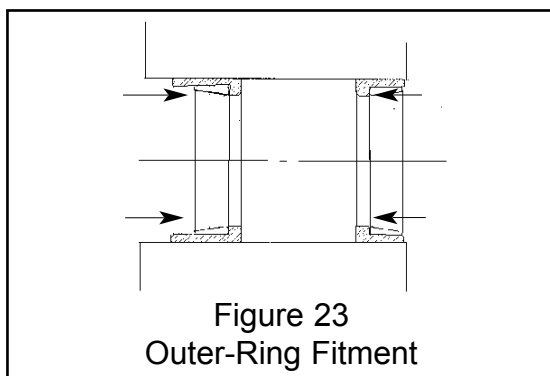

Figure 23
- Slide both front (5) and rear (4) outer races into the bearing housing. (See figure 23) **Note:** At this stage do NOT put additional oil on bearings.